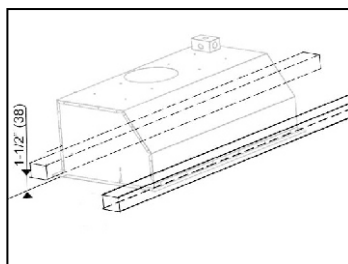

Figure 1
10. The hood has to be installed inside the cabinet. It is recommended to install a front and rear stud support. Refer to Figure 1. The stud supports are located 1-1/2" from the rear and 2" from the front.